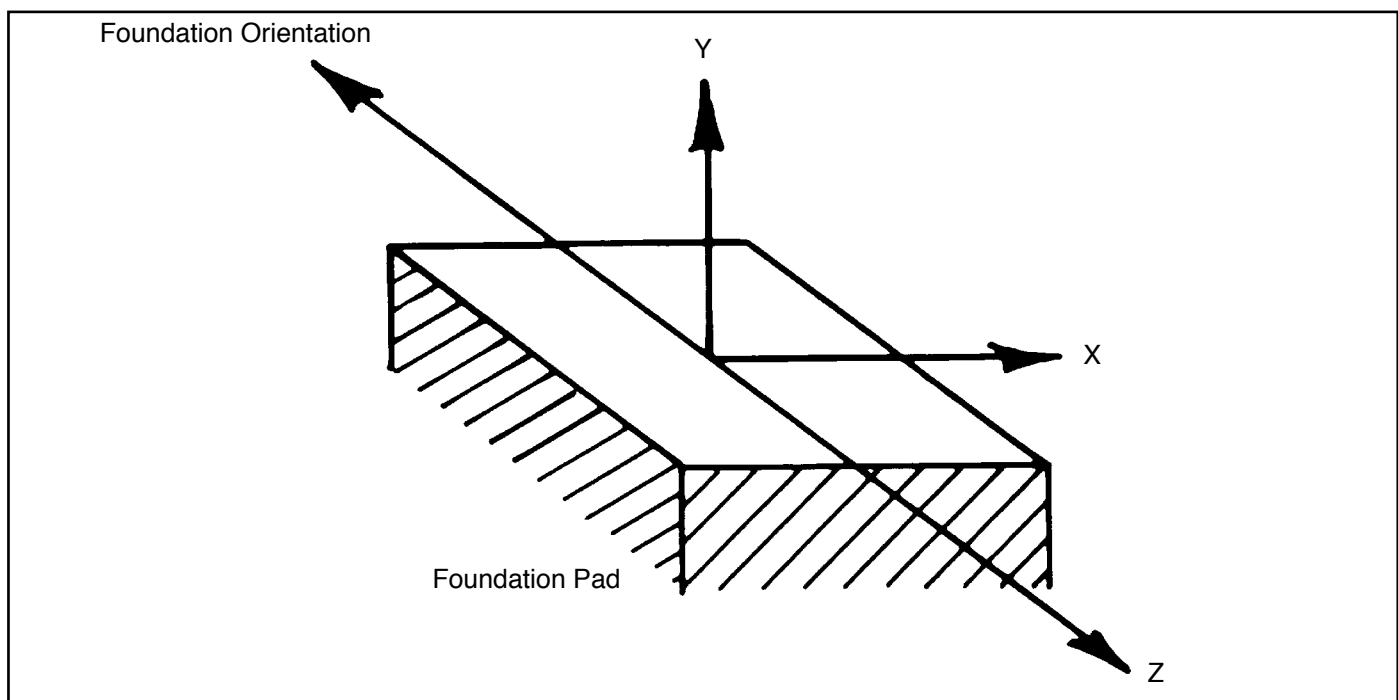

Figure 1
2.1 Foundation loads are applied to the foundation pad as shown in Figure 1. Positive applied forces are in the direction of the X, Y, and Z coordinate axes.